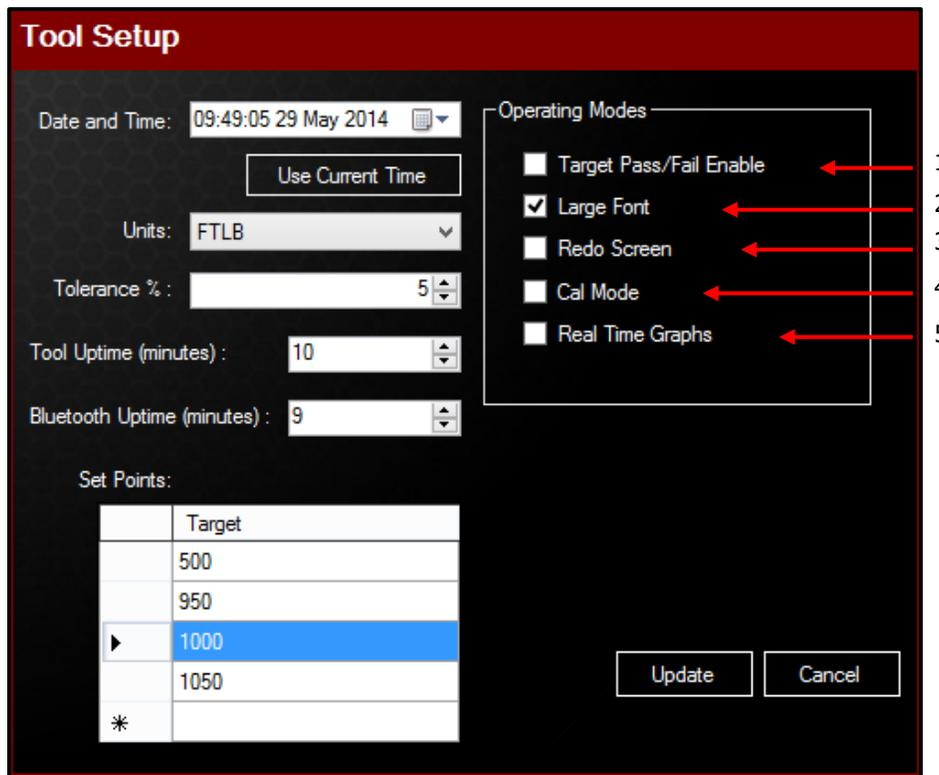

Figure 6.2-1: Tool Setup Menu
**Operating Modes** (refer to Figure 6.2-1 above):